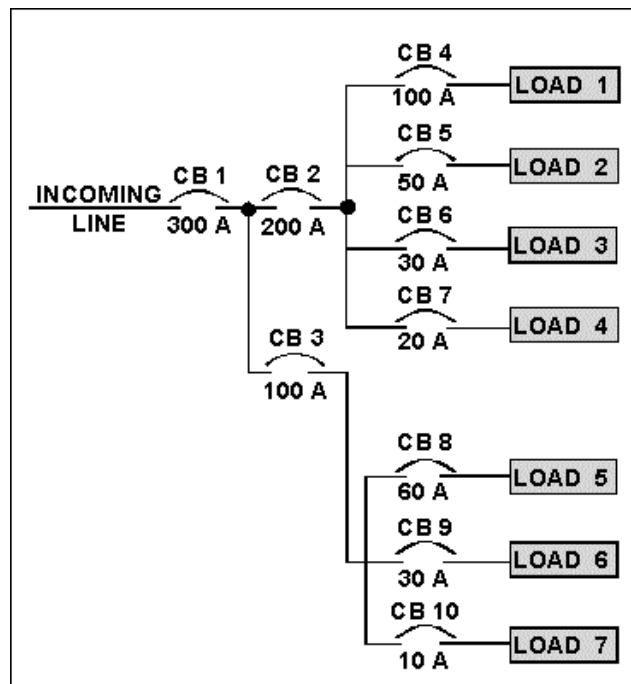

Figure 2-22.—Use of circuit breakers in a power distribution system.
Selective tripping is used to cause the circuit breaker closest to the faulty circuit to trip. This will remove power from the faulty circuit without affecting other, nonfaulty circuits. Figure 2-22 should help you understand selective tripping.
Figure 2-22 shows a power distribution system using circuit breakers for protection. Circuit breaker 1 (CB1) has the entire current for all seven loads through it. CB2 feeds loads 1, 2, 3, and 4 (through CB4, CB5, CB6, and CB7), and CB3 feeds loads 5, 6, and 7 (through CB8, CB9, and CB10). If all the circuit breakers were rated with the same time delay, an overload on load 5 could cause CB1, CB3, and CB8 to trip. This would remove power from all seven loads, even though load 5 was the only circuit with an overload.
*Q39. If the power distribution system shown in figure 2-22 uses selective tripping, what is the time delay rating for each of the circuit breakers shown?*